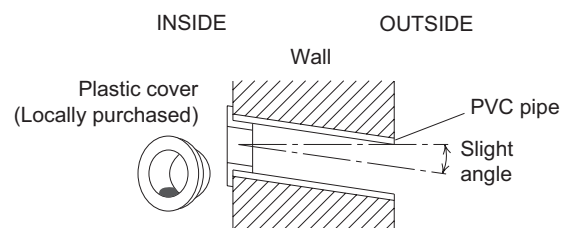

Fig. 2-161
- (6) Place the plastic cover over the end of the pipe (for indoor side only) and insert the pipe in the wall. (Fig. 2-161)